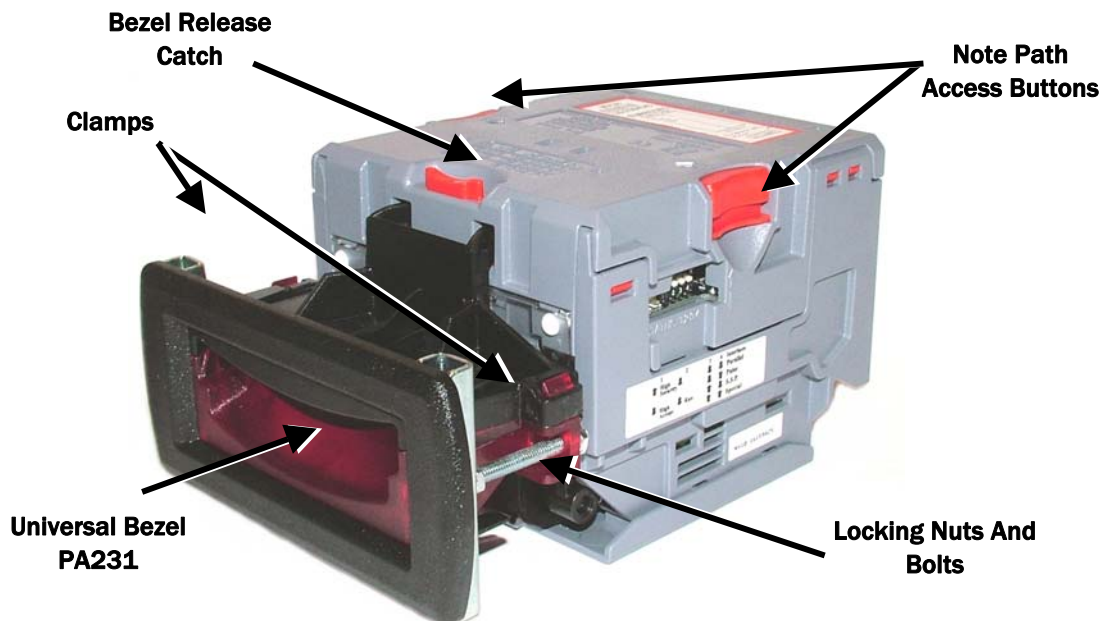

Figure 10 - Bezel and NV10 Installation
The NV10 validator is supplied with the Universal Bezel-PA231 (see figure 10).
- Remove the 4 nuts, 2 metal clamps, star washers and 2 bolts from each side of the bezel as above (see figure 10).